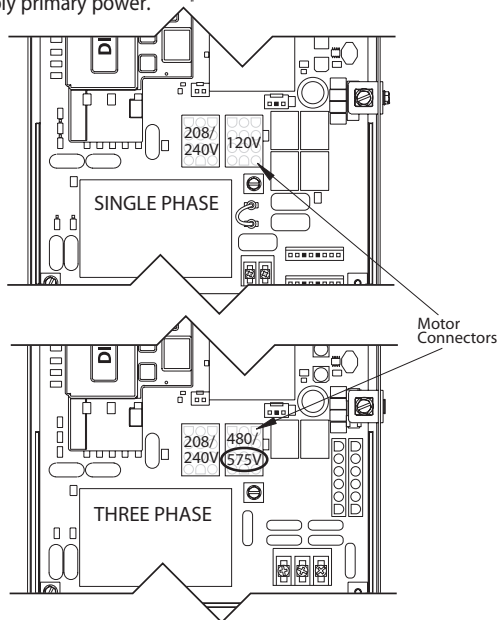

Figure 14
- 1) Plug motor harness into proper motor connector on circuit board in electric box. **Fig. 14.**